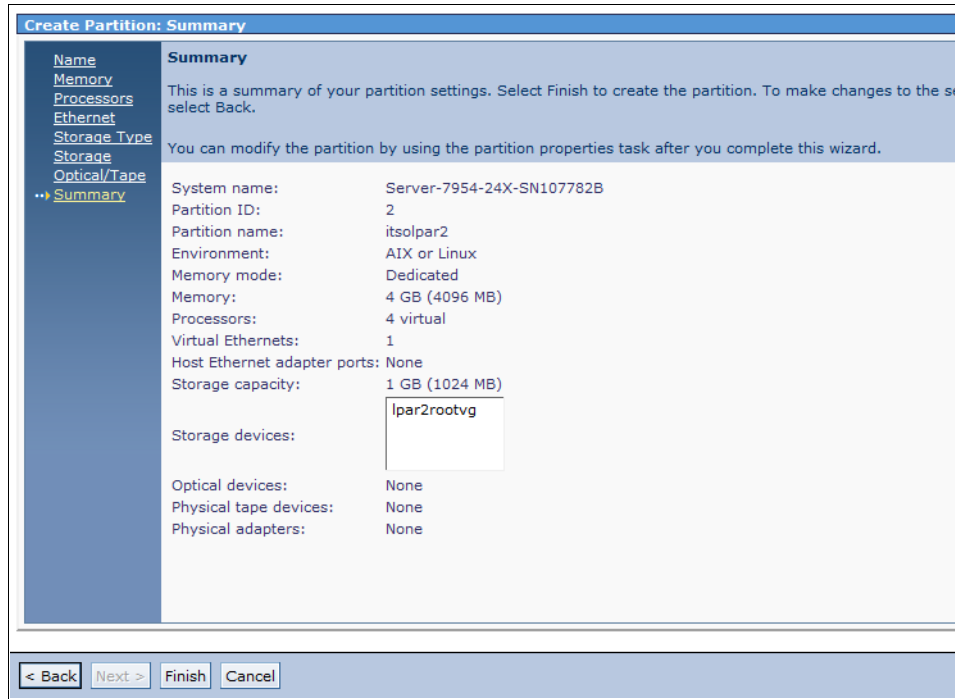

Figure 8-72 IVM Create Partition Summary window
11. As shown in Figure 8-72, the Summary window lists all the options and actions that were selected in the previous windows. If any changes are wanted, click **Back** to move to the wanted window.